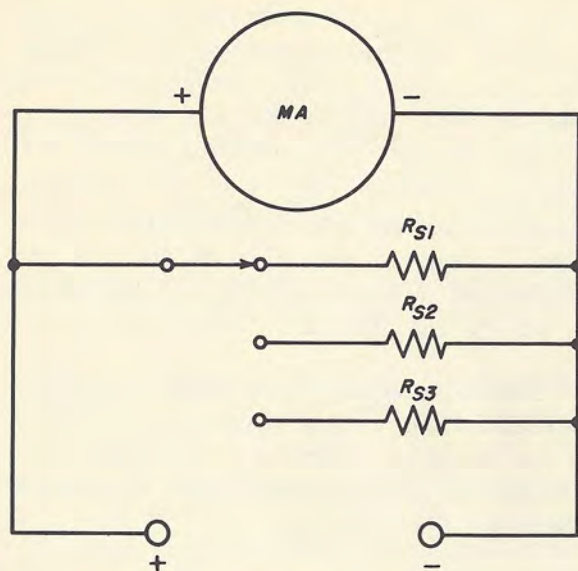
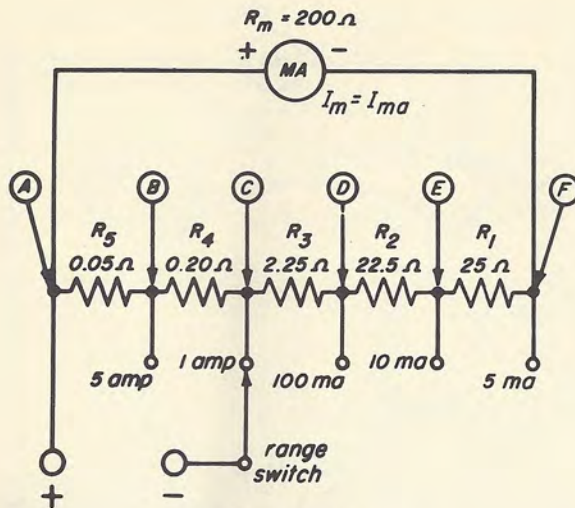

Fig. 11-12
Fig. 11-14
We have a choice of switching methods for adding shunt resistors to the meter. It is possible to use the very simple method shown in Fig. 11-12, but this method has certain serious practical disadvantages that make us look for a better way.
**Universal Shunt.** Another method of connecting shunt resistors is known as the *universal shunt*. Figure 11-14 shows a typical universal shunt and switching system. Note that the resistors are all connected in series across the meter terminals and the line connection goes to the switch arm. Current from the line must go through the switch contact before it can reach the meter. If the switch contact fails, no current can reach the meter. But in the simple shunt of Fig. 11-12, if the switch contact fails while a measurement is being made, no current goes through the shunt, thus letting the entire current flow through the meter. This may result in meter damage. Thus, this feature of meter protection is an important advantage of the universal shunt. To calculate the proper values of the universal shunt, we must know the meter current needed for full-scale deflection, the meter resistance, and the current ranges needed. It is not possible to make a meter that needs 50 microamperes for full-scale deflection read full scale on 10 microamperes, so any new current ranges must be greater than the basic current range of the meter. Let's find the value of shunts needed if a 1-ma movement with a resistance of 200 ohms is to read full scale on 5 ma, 10 ma, 100 ma, 1 amp, and 5 amps. Since the lowest current range is to be 5 ma, and the meter requires 1/5 of this current (1 ma)